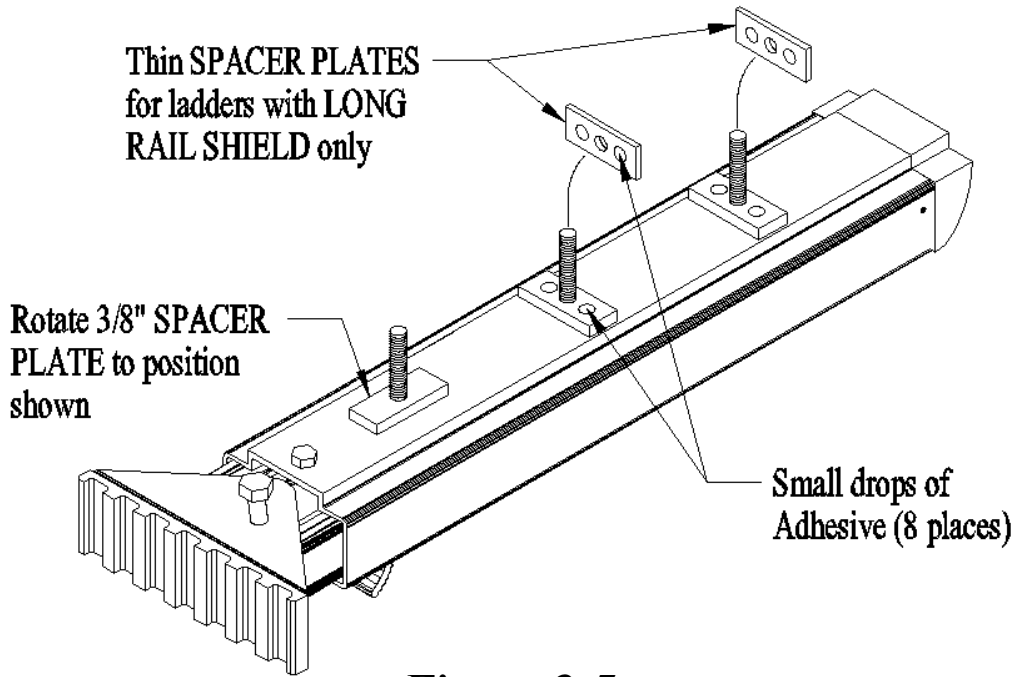
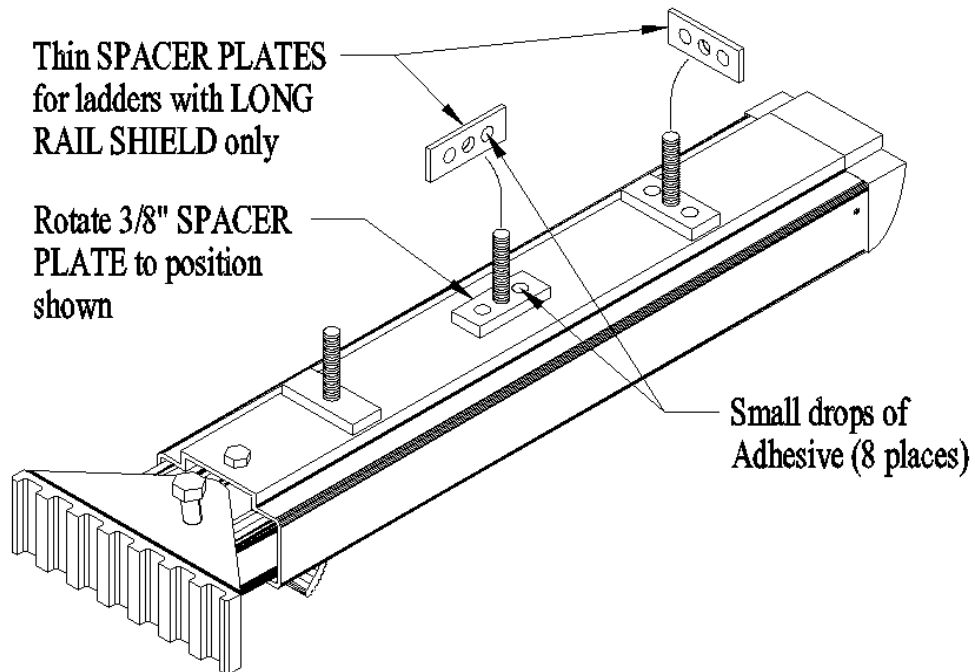

Figure 3-5
Figure 3-6
5. "Slowly" rotate the appropriate, pre-installed 3/8" thick spacer plate **ON BACK OF LEVELER** a full 90 degrees using a large pair of pliers (see **Figure 3-5** for Werner and similar and **Figure 3-6** for Louisville and similar ladders). Vice Grips work best for this step. Grip the long sides of the spacer plate for best results.
6. Open the Levelok kit provided and locate the packet of metal adhesive and thin aluminum spacer plates (1/8" x 3/4" x 2") provided. Place small drops of adhesive on one side of each plate, on either side of the pre-drilled hole. Next, with the glue side down, slide the spacer plates onto two upper-most, mounting studs and press securely against the pre-installed, 3/8" thick spacer plates. Maintain alignment between the mating parts (see **Figure 3-5** for Werner and similar and **Figure 3-6** for Louisville and similar ladders). Hold for 5-10 seconds.